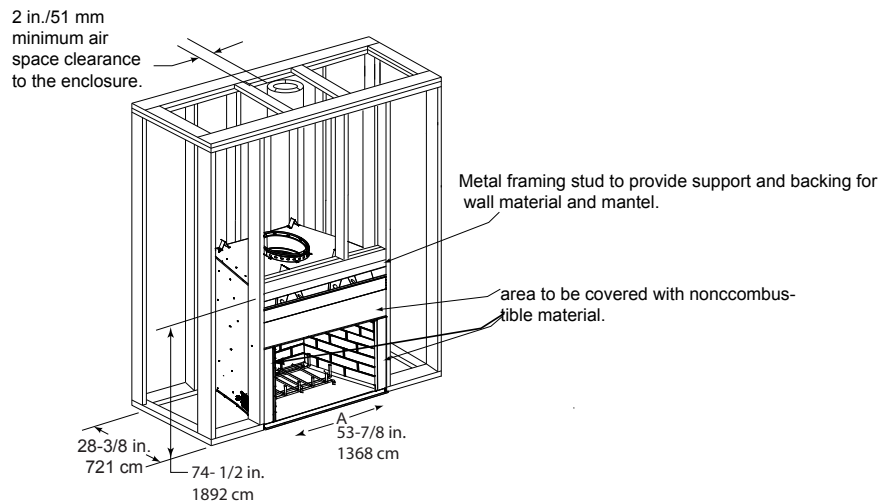

Figure 3.5 Framing the Fireplace
- Observe all required air space clearances to combustible materials as shown in Figure 3.5.